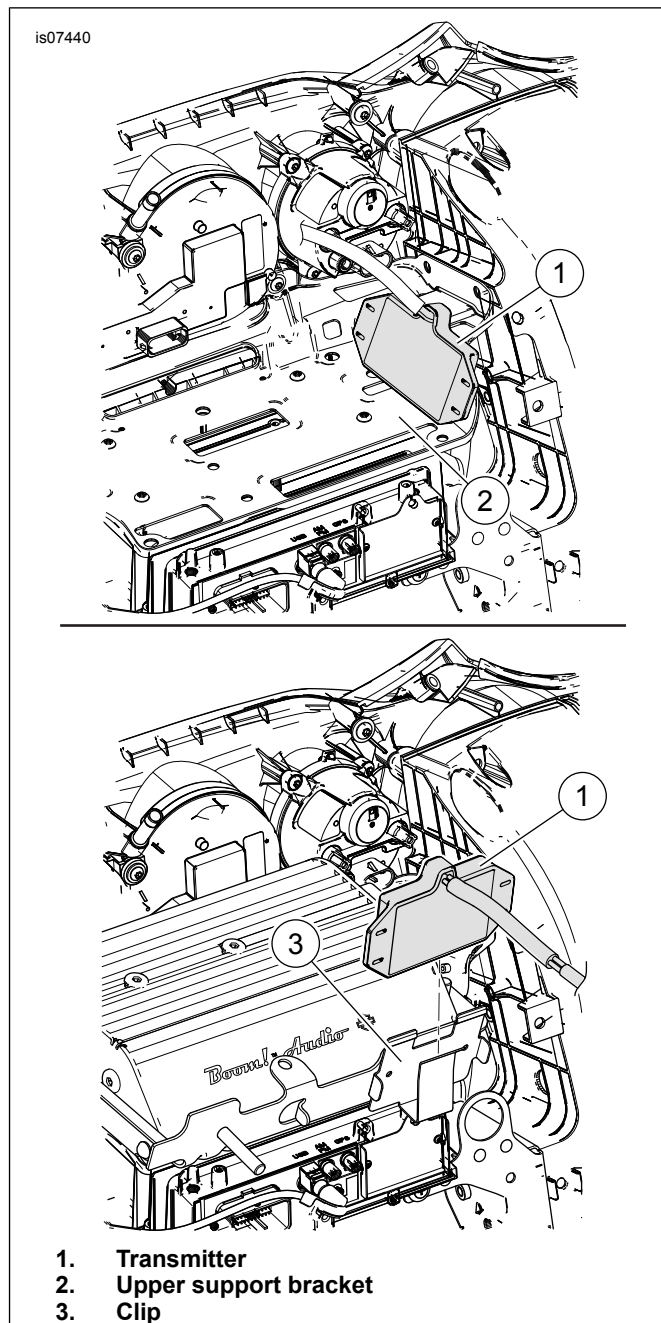

Figure 13. Transmitter Mounting (2014-2016 FLHT and FLHX Touring or Trike Models)
2. See Figure 13. **Models WITHOUT fairing-mounted amplifier:**
- b. Mount the transmitter (1) to the left side of the upper support bracket.
- a. Insert the transmitter (1) into the clip (3) on the front of the amplifier mounting bracket.